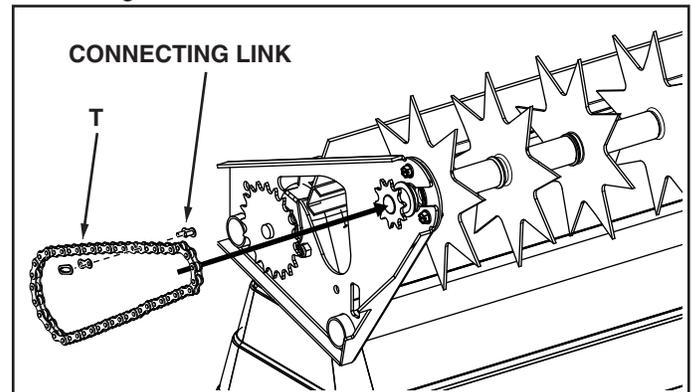

FIGURE 16
23. Remove connecting link from chain and assemble the chain (T) around the sprockets, and then fasten the ends of the chain together using the connecting link. See figure 16.